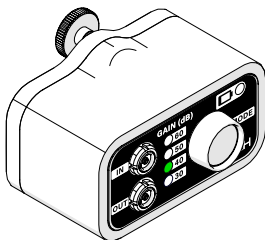

Fig. 17 - GAIN light illuminates when power is on
2. The GAIN setting last selected will become illuminated, indicating the preamp has been turned on (*Fig. 17*).